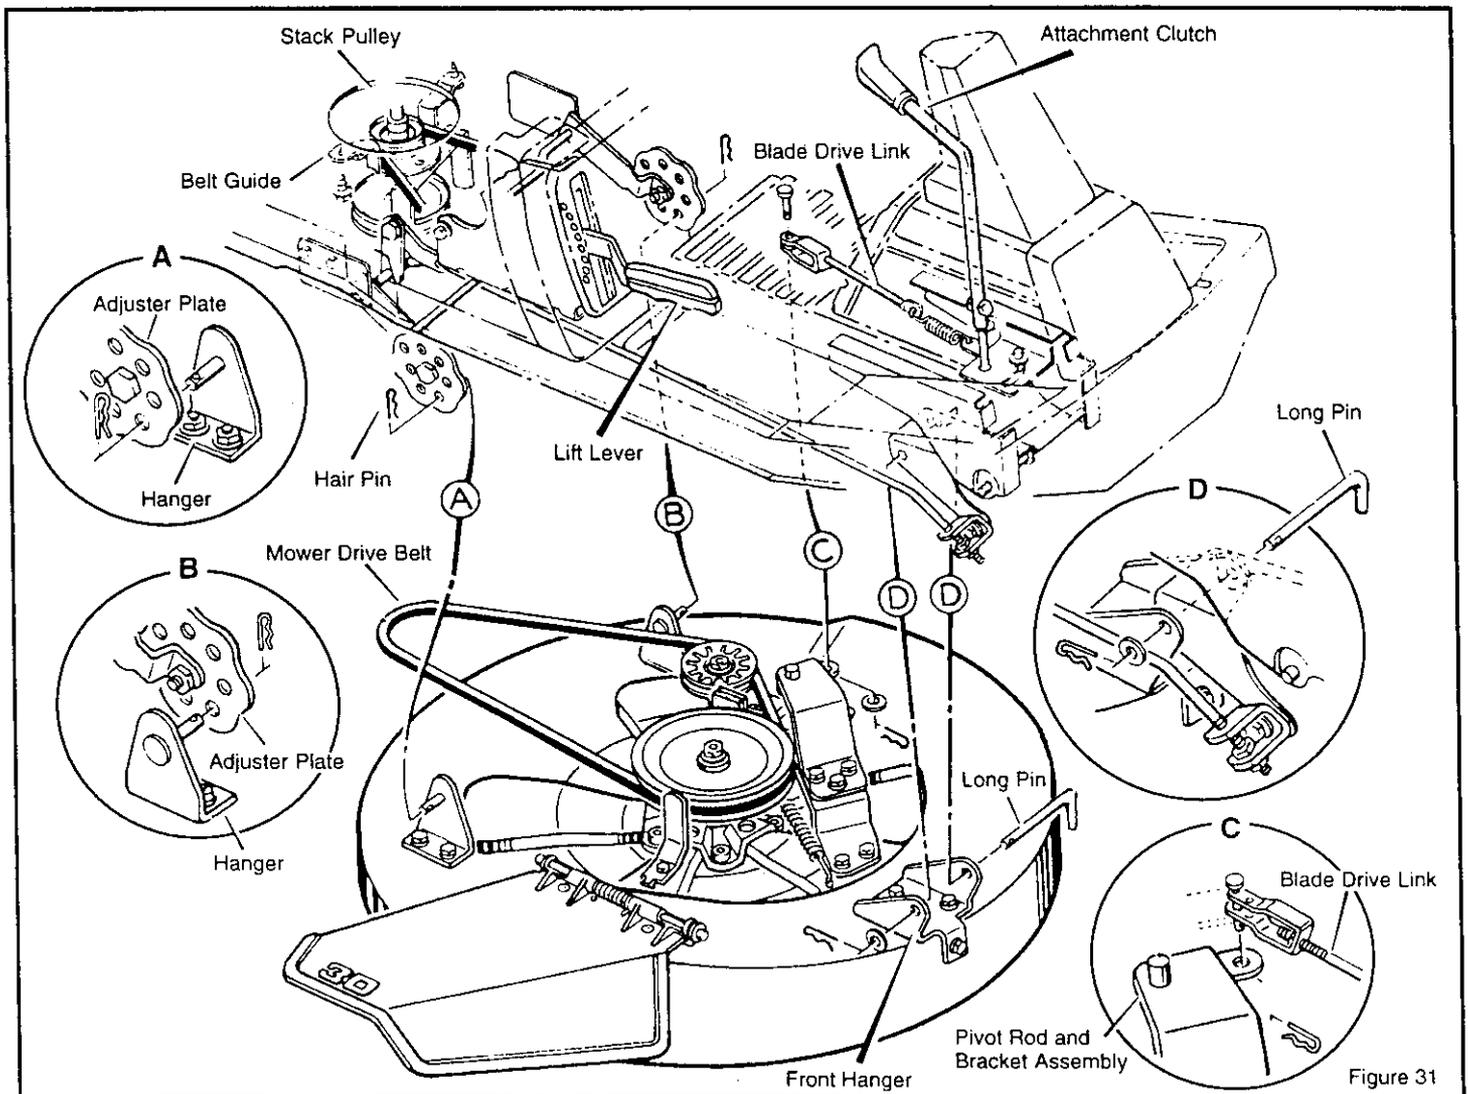

Figure 31
2. Move the **attachment clutch** to the **DISENGAGE** position (Figure 31).